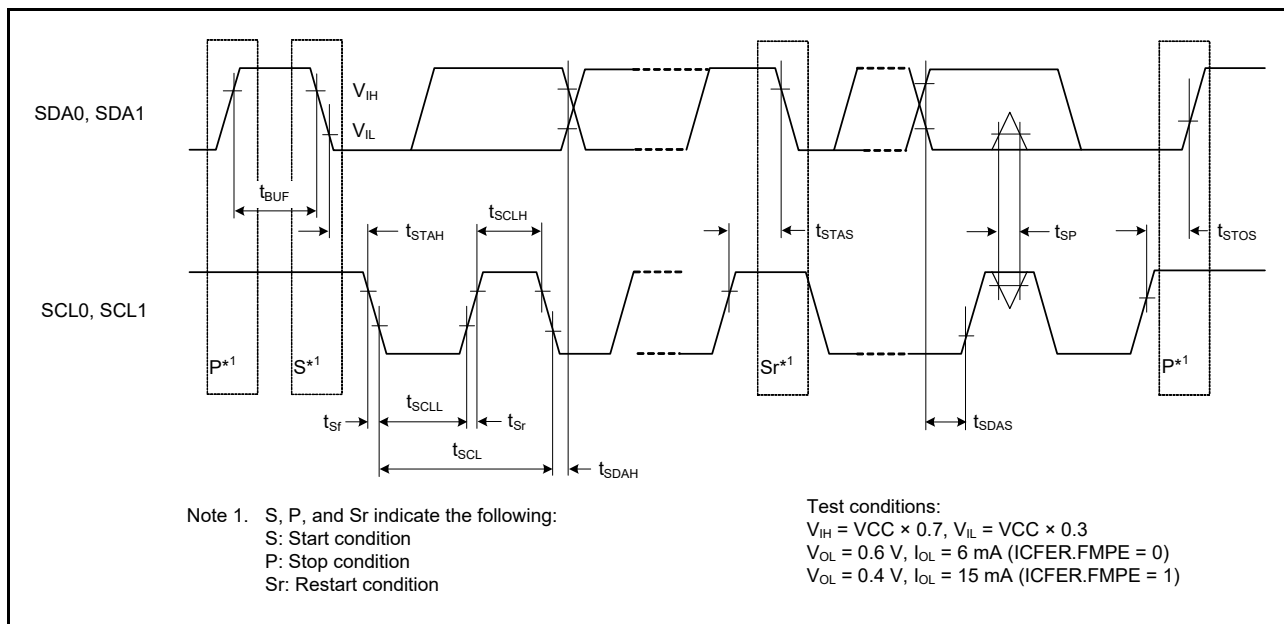

Figure 43.42 I²C bus interface input/output timing
| IIC (Standard mode, SMBus) ICFER.FMPE = 0 | SCL input cycle time | t_{SCL} | $6 (12) \times t_{IICcyc} + 1300$ | - | ns | Figure 43.42 |
| IIC (Fast mode) | SCL input cycle time | t_{SCL} | $6 (12) \times t_{IICcyc} + 600$ | - | ns | Figure 43.42 |
| IIC (Fast mode+) ICFER.FMPE = 1 | SCL input cycle time | t_{SCL} | $6 (12) \times t_{IICcyc} + 240$ | - | ns | Figure 43.42 |